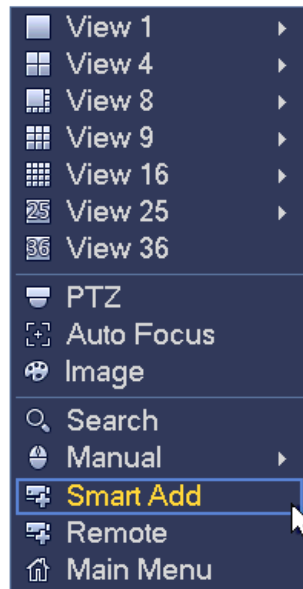

Figure 4-13
- On the preview interface, right click mouse and then select Smart add. See Figure 4-13.